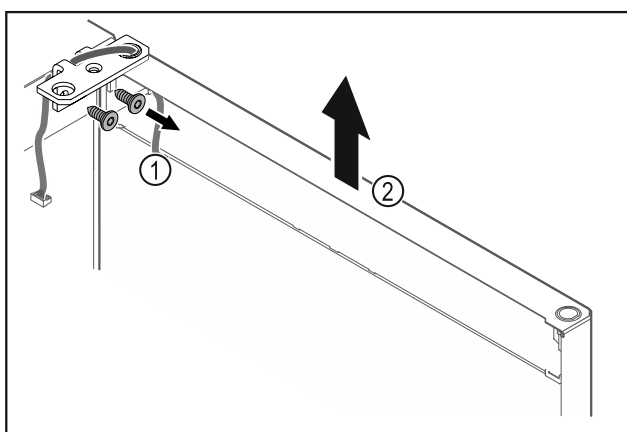

Fig. 12
- Unscrew the hinge Fig. 12 (1).
- Lift the door with the hinge straight up by Fig. 12 (2) roughly 200 mm and take it off.